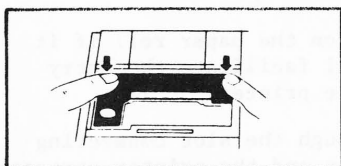

FIGURE 3
- d. Install cartridge (see figure 3). Be sure the cartridge is inserted firmly to prevent weak or irregular printing. The cartridge must be properly seated and aligned for best printing.